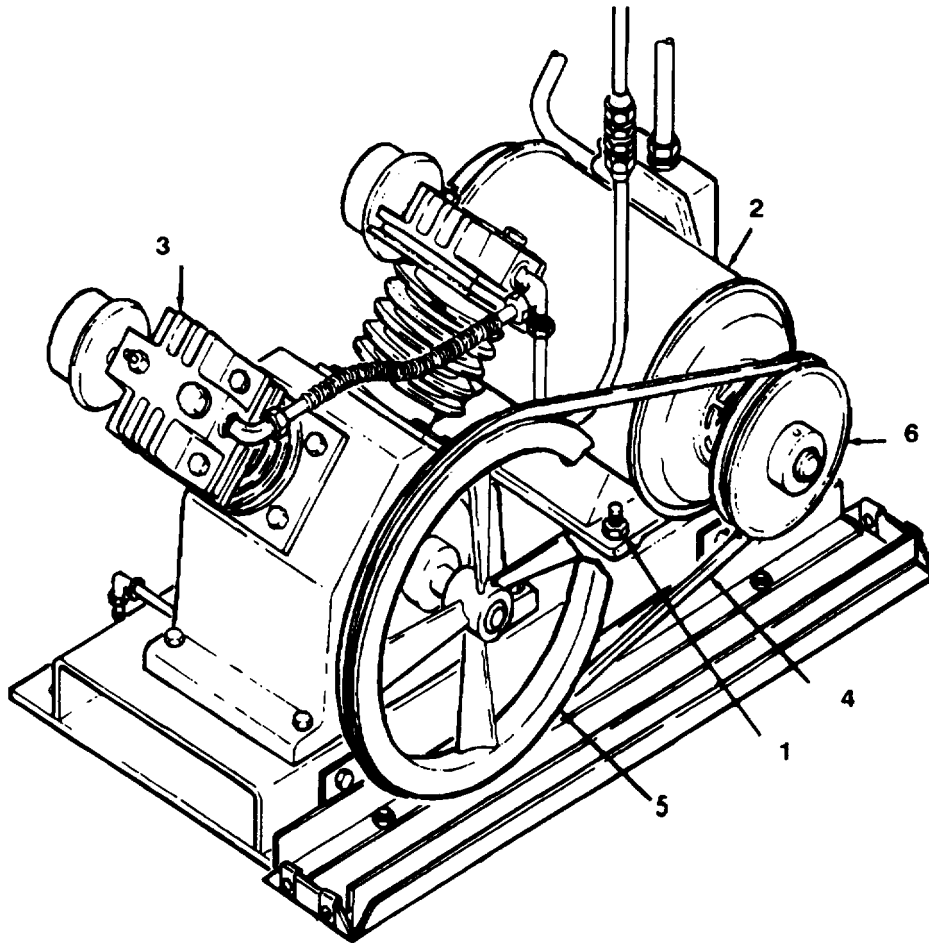

Figure 4-5. Air Compressor Belt, Removal/Installation.
a. **Removal.** (Refer to figure 4-5.)
- (1) Loosen four nuts (1) and slide motor (2) toward air compressor (3) until air compressor belt (4) can be removed.
- (2) Remove air compressor belt (4) from compressor pulley (5) and motor pulley (6).